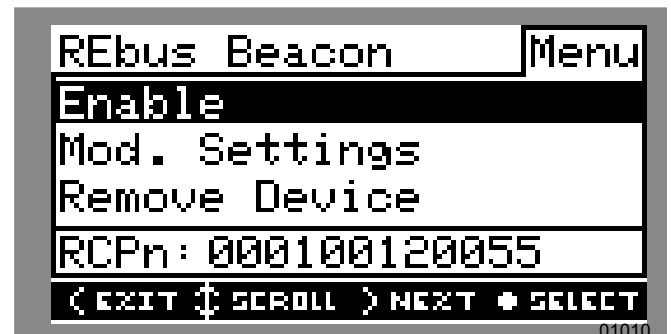

Figure 6-11. Configuring TOU Schedule (2 of 4)
- See Figure 6-11. Use the up and down arrows to highlight Mod. Settings and press the center button to enter the settings menu.